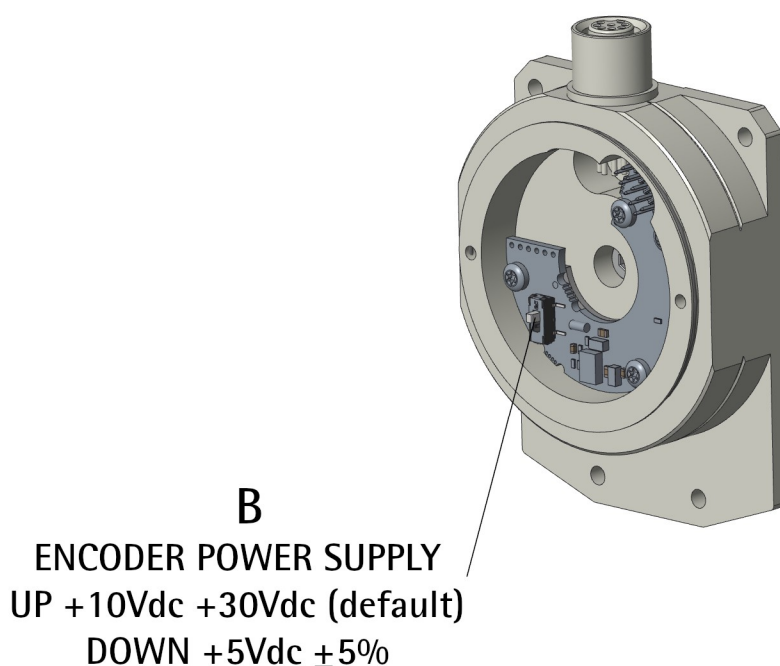

Figure 5 - POWER SUPPLY DIP switch
Before switching the power on, please read carefully the "4.1.1 POWER SUPPLY DIP switch (Figure 5)" section on page 31.
4.1.1 POWER SUPPLY DIP switch (Figure 5)